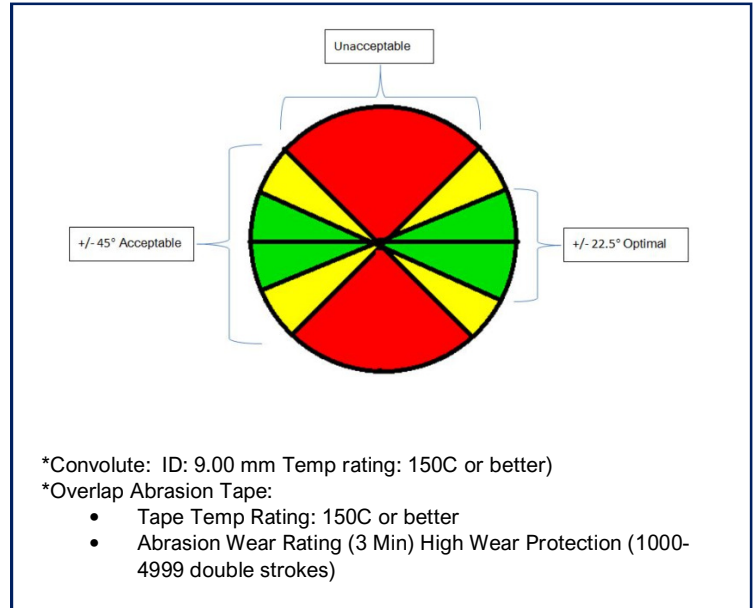

Figure 2
- Acceptable eyelet orientation is defined as no greater than +/- 45° on the horizontal; however, +/-22.5° is considered optimal, Reference **Figure 2**.